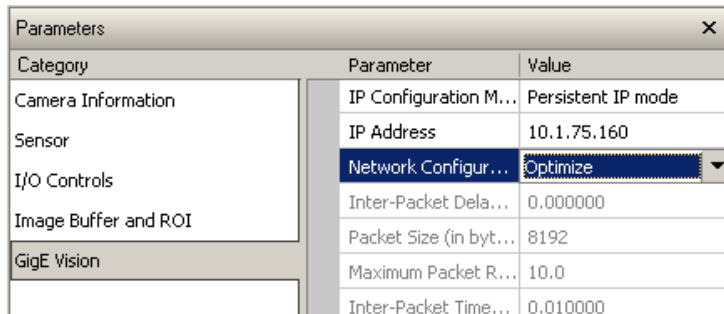

Figure 32. Packet Size
1. Click on the "GigE Vision" tab (Figure 32).
2. Click on "Automatic" beside "Network Configuration" and change the value to "Optimize". The value for "Packet Size" should change. (8192 in Figure 32). If the packet size is 1500 it means either the ethernet port is not a GigE port or the "Jumbo Frames" attribute is not set on the port.